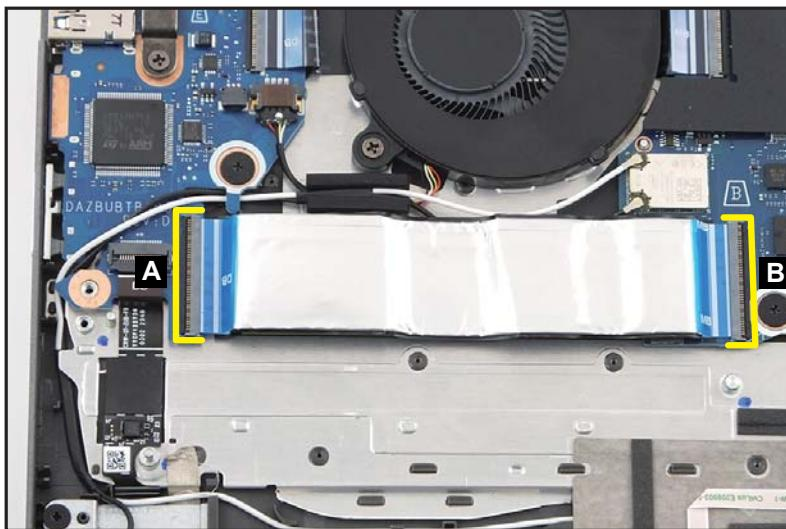

Figure 1-14. SSD Module Removal
1. Disconnect the 45-pin USB board FFC from the USB board connector (A) and the mainboard connector (B). Then remove the 45-pin USB board FFC (Figure 1-14).